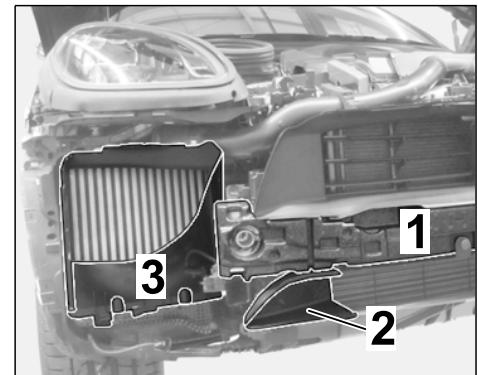

Figure 16 (Turbo)
- 3.1.1 Replace plastic foam strip (front ⇒ *Figure 16 (Turbo) -1-*) with new plastic foam strip (⇒ *Workshop Manual '631019 Removing and installing front bumper*).
- 3.1.2 Replace air flap (left/right ⇒ *Figure 16 (Turbo) -2-*) with new air flap (left/right) (⇒ *Workshop Manual '631019 Removing and installing front bumper*)
- 3.1.3 Replace air guide for charge-air cooler (left/right ⇒ *Figure 16 (Turbo) -3-*) with new air guide (left/right) (⇒ *Workshop Manual '211019 Removing and installing air guide for charge-air cooler*).